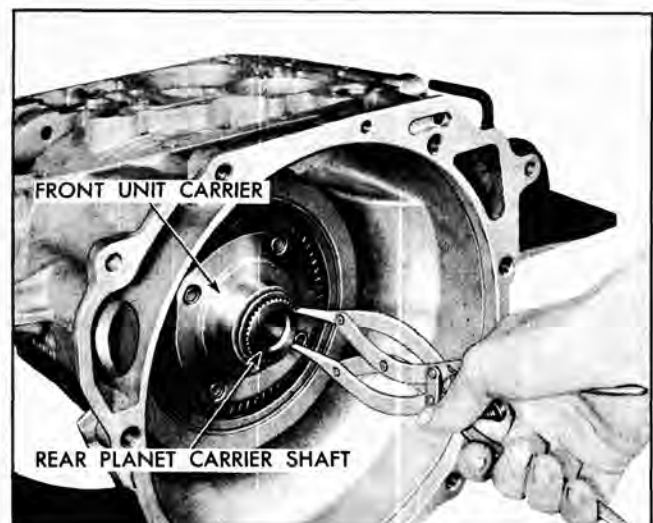

Fig. 57 Removing Front Unit Carrier Snap Ring
10. Remove front carrier to carrier shaft snap ring (Fig. 57).